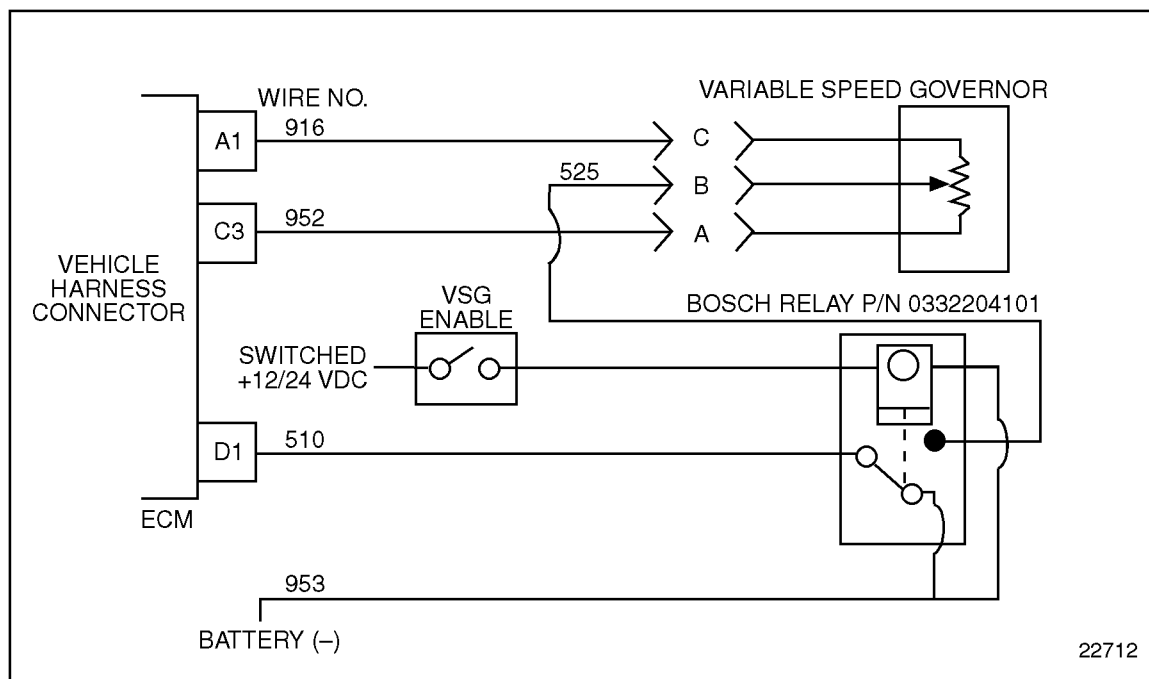

Figure 12-1 Variable Speed Governor Circuit
1. Turn ignition ON. (For VSG circuit, see Figure 12-1.)
2. Unplug the VSG throttle connector. (For VSG circuit, see Figure 12-1.)